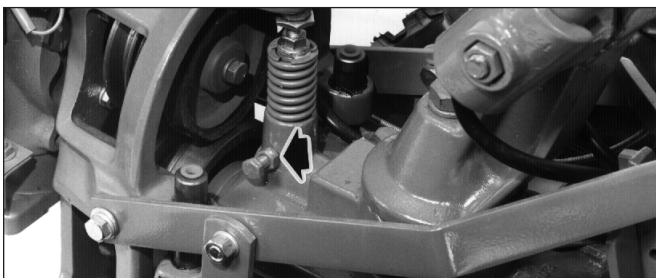

Figure 5-2: Check jam nut on plunger assembly.
2. Check jam nut on left side of neutral plunger assembly (Figure 5-2). If loose, immobilize bolt head with one wrench and use another wrench to tighten the nut.